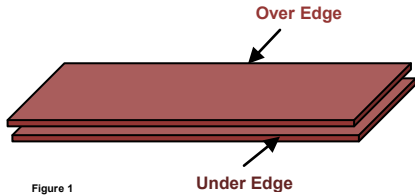

Figure 1
**1** Installation should start from a wall, normally the longest wall, with the under-edge facing away from the wall (figure 1).